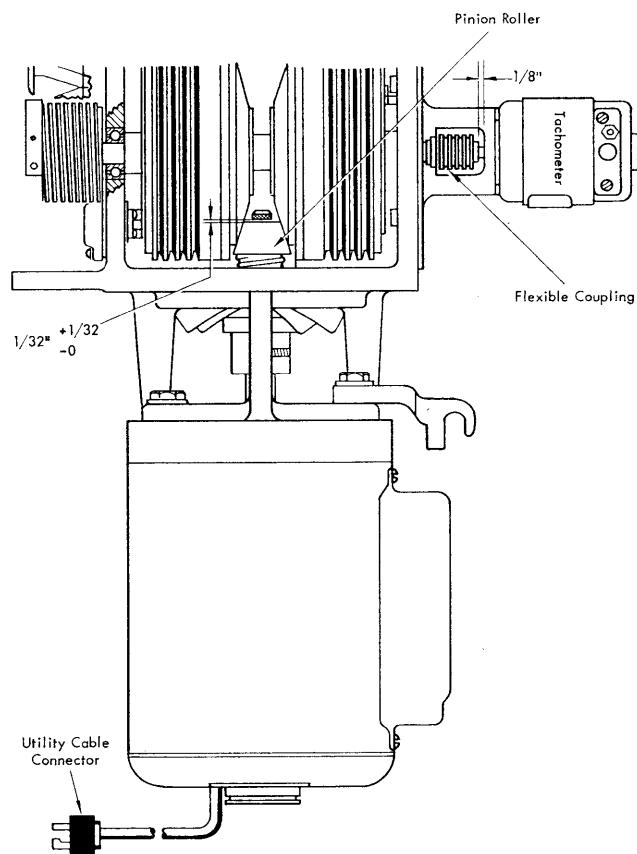

Figure 73. Access Motor
## *Access Motor (Figure 73)*
## *Pinion Roller (Figure 73)*
### **ADJUSTMENT (FIGURE 73)**
2. Shim pinion shaft on motor shaft to obtain a pinion roller to retaining washer clearance of  $1/32'' +1/32'', -0''$ . Tighten the mounting screw. Figure 73.
2. Check for  $\frac{1}{8}$ " clearance between tachometer and coupling (Figure 73).